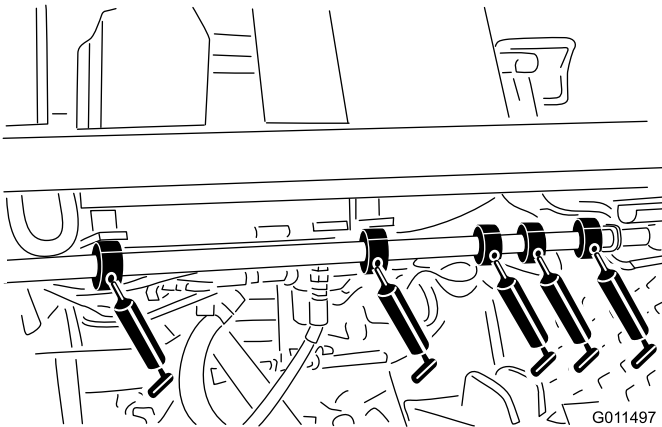

Figure 36
- Brake shaft pivot bearings (5) (Figure 36)